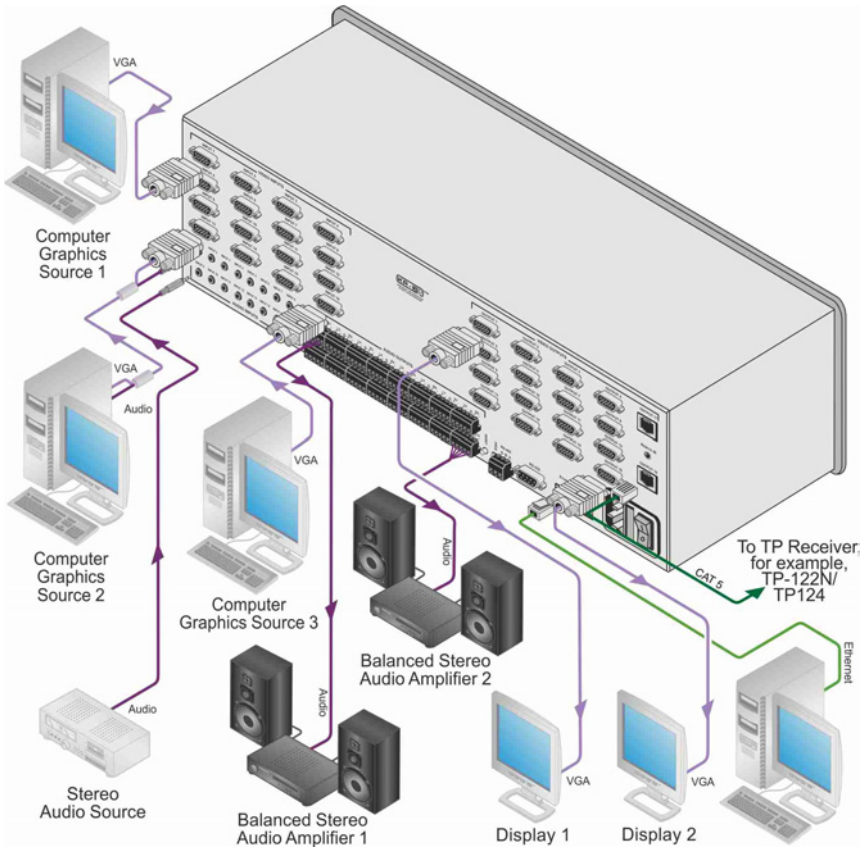

Figure 3: Connecting the VP-16x18AK 16 x 18 PC UXGA/Audio Router
To connect¹ the VP-16x18AK, as illustrated in the example² in Figure 3:
6. Connect the power cord³ (not shown in Figure 3).